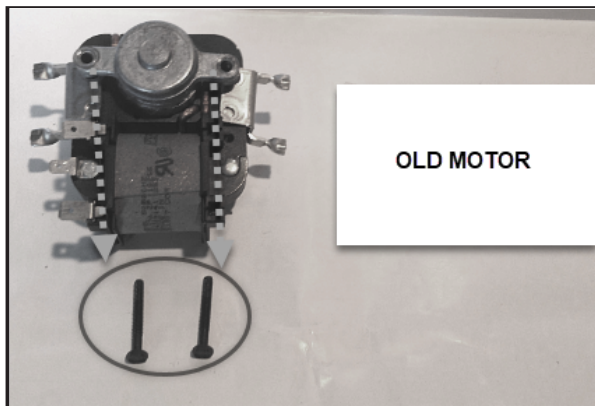

Figure 2
4. Take the old motor and remove the bearing block screws. See *Figure 2*.